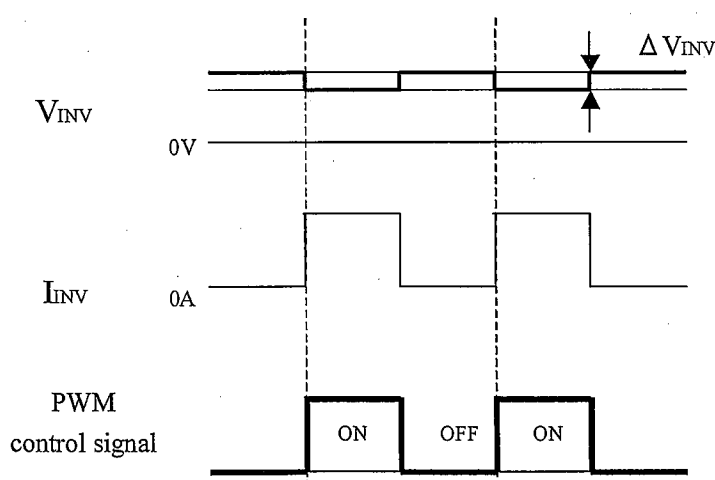

Fig.4 Brightness control voltage
- Brightness control voltage is switched for "ON" and "OFF", as shown in Fig.4. Voltage difference generated by this switching,  $\Delta V_{INV}$ , may affect a sound output, etc. When the power supply is shared between the inverter and its surrounding circuit. So, separate the power supply of the inverter circuit with the one of its surrounding circuit.
Packing form figures are shown in Fig.4